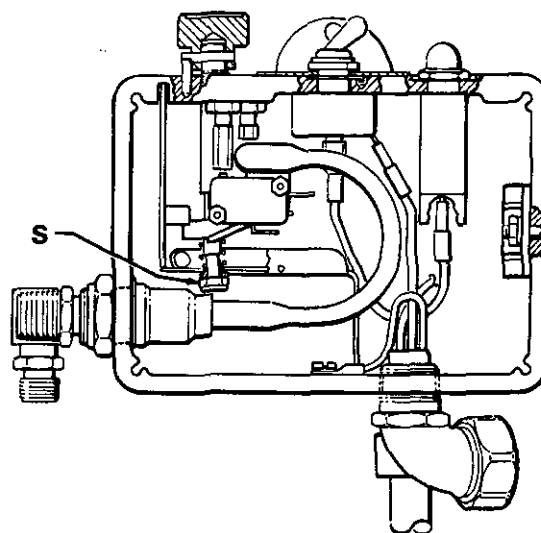

Fig 22
3. Remove the plug from the top of the fluid filter, and install the test gauge (W).
6. Use a 3/8" ignition wrench to turn the pressure adjustment nut (S) counterclockwise about two full turns. See Fig 22.